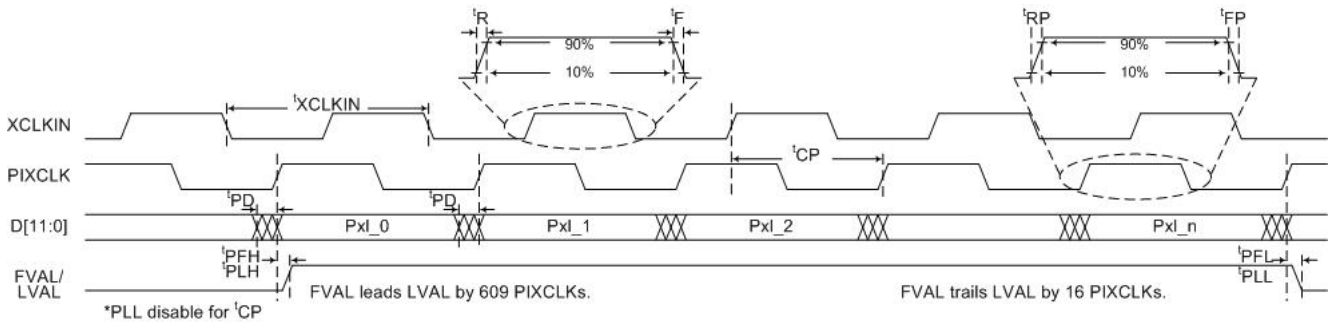

Figure 4.2 I/O Timing Diagram
See Figure 4.2 and Table 4.2 for I/O timing (AC) characteristics.